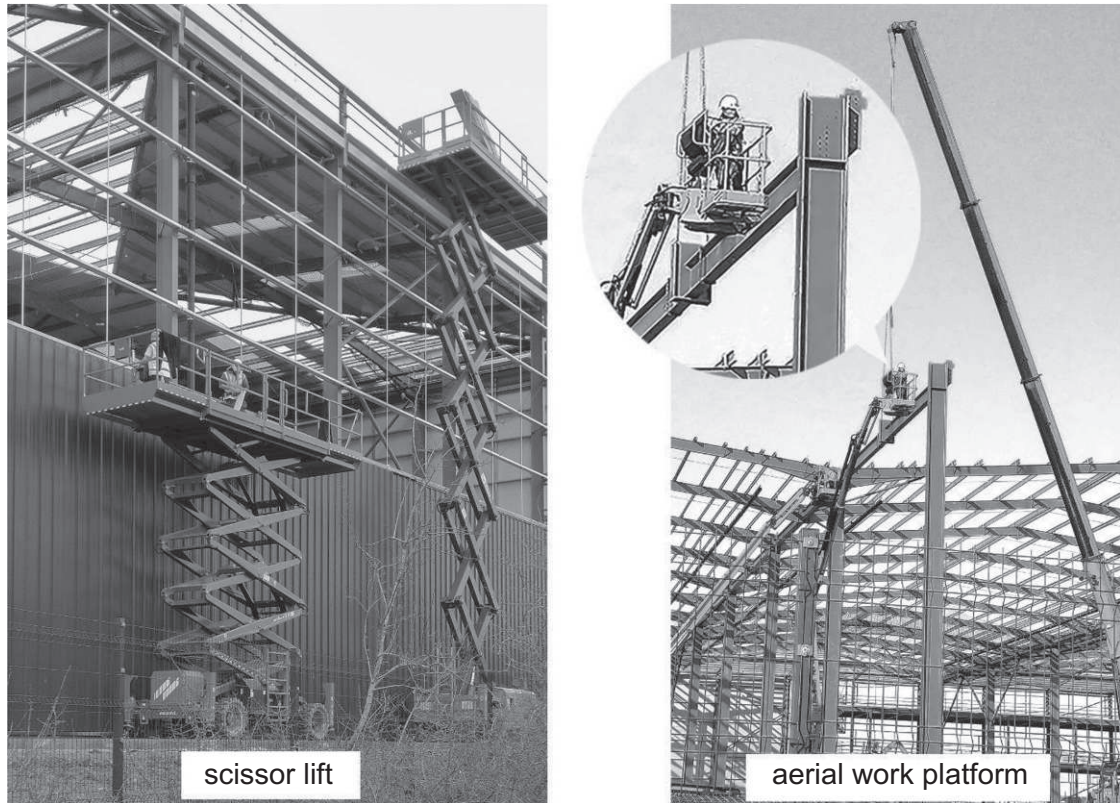

Fig. 9.3
- (b) Fig. 9.3 shows two structures used to access a building under construction. Both structures use linkages to achieve vertical movement.